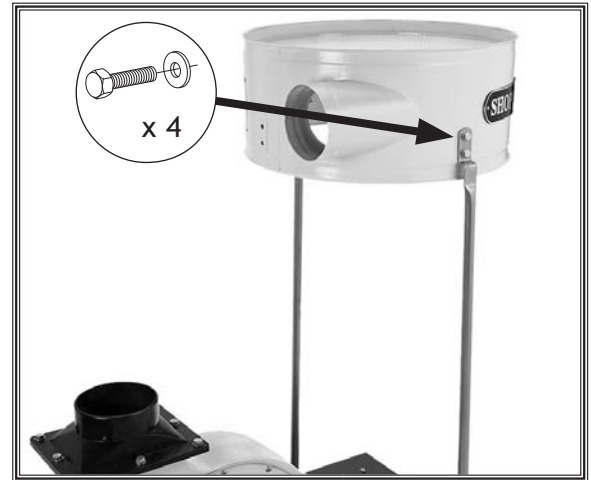

Figure 12. Separator attached to front and rear supports.
8. With assistance from another person, attach separator to the front and rear supports, as shown in **Figure 12**, with (4) M8-1.25 x 16 hex bolts and (4) 8mm flat washers.